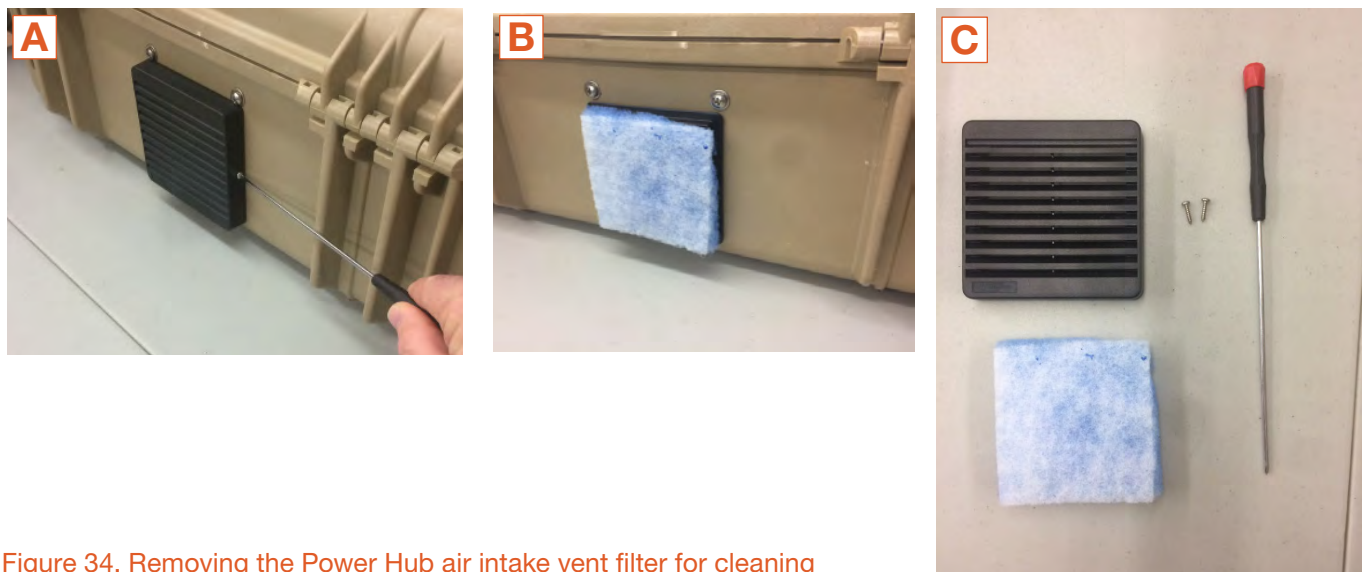

Figure 34. Removing the Power Hub air intake vent filter for cleaning
The air intake vent and filter on the back of the Power Hub. The louvered vent cover is secured by two (2) cross tip screws, one on each side. A fine cross tip screwdriver or similar will be required to remove the screws. After exposing the filter, lift it from the vent and wash thoroughly with water, dry thoroughly and reinstall the filter and louvered vent cover. Ensure that the leading edge of the louvers are facing downward. The parts and tool required are shown in (Figure 34).